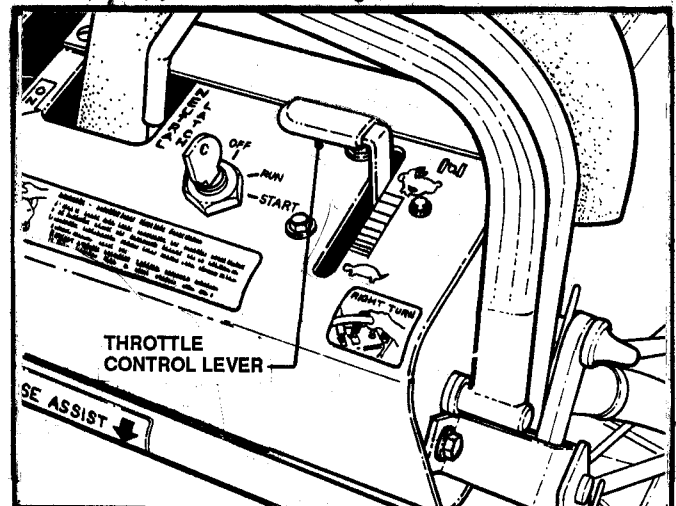

FIGURE 9
5. Move THROTTLE CONTROL to "CHOKE" (1/1) position. See Figure 9.
6. Turn KEYSWITCH to "RUN" position. Refer to Figure 9.